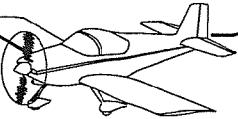

**FIGURE 3: FITTING THE GAP SEAL AND GAP FAIRING**
Step 7: Mark and trim the aft edge of the F-1094C Gap Seal parallel with the step (see Figure 3) in the F-1094A Empennage Gap Cover. The F-1094C Gap Seal has been created oversize to account for material shrinkage over time. Compress the gap seal onto the F-1094A Empennage Gap Cover as shown in Figure 3 leaving just enough material to properly trim the forward end of the gap seal. Mark and trim the forward edge of the gap seal as shown in Figure 3. This will create F-1094C-L.
Step 8: Install the F-824B Cover Plate on the tailcone assembly, using at least two of the four lower attach holes. Cleco the F-1094A Gap Cover to the tailcone assembly (the holes were left open in the Section 10 Tailcone Assembly). See Figure 3.
Step 9: Match-Drill #40 the aft two lower holes indicated in Figure 3 in the F-1094A Empennage Gap Cover into the F-824PP Cover Plate and F-1032-L Tailcone Longerons Left.